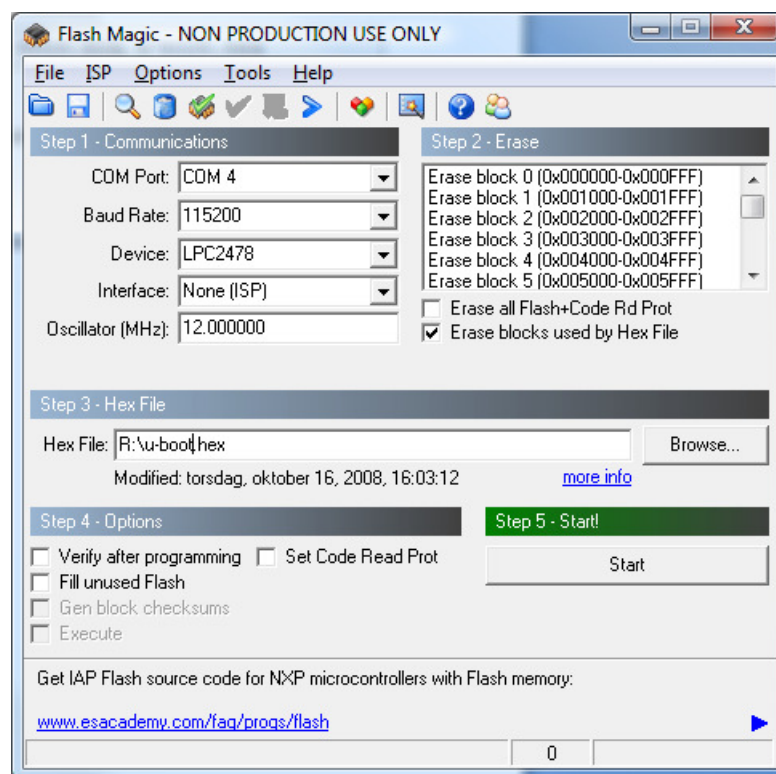

Figure 36 FlashMagic
15. Start the FlashMagic tool (can be downloaded from ref [31]). See Figure 36 for what FlashMagic looks like when it is started.